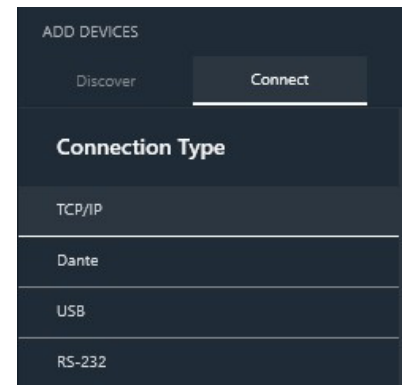

Figure 41. TCP/IP Tab
- a. Click the **TCP/IP** tab (see figure 41) in the Connection Type panel.